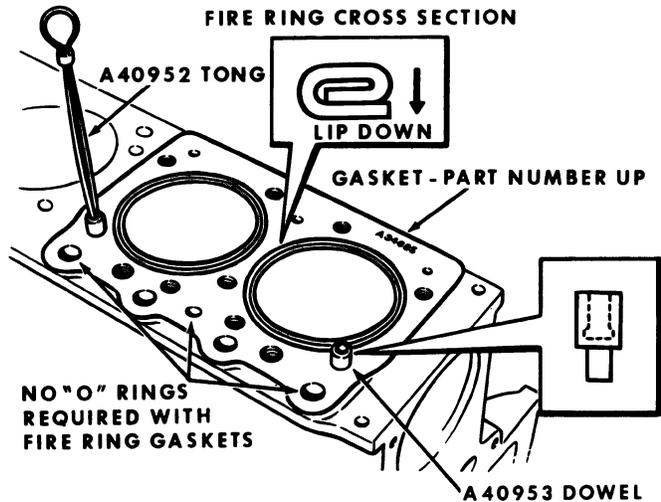

Figure K-4
4. Figure K-4. Regular line-up studs could be used for most engines. In some instances it is very difficult to install the
7. Install the fire rings with the lip downwards, Figure K-4. **NOTE** Fire ring gaskets must be installed dry.